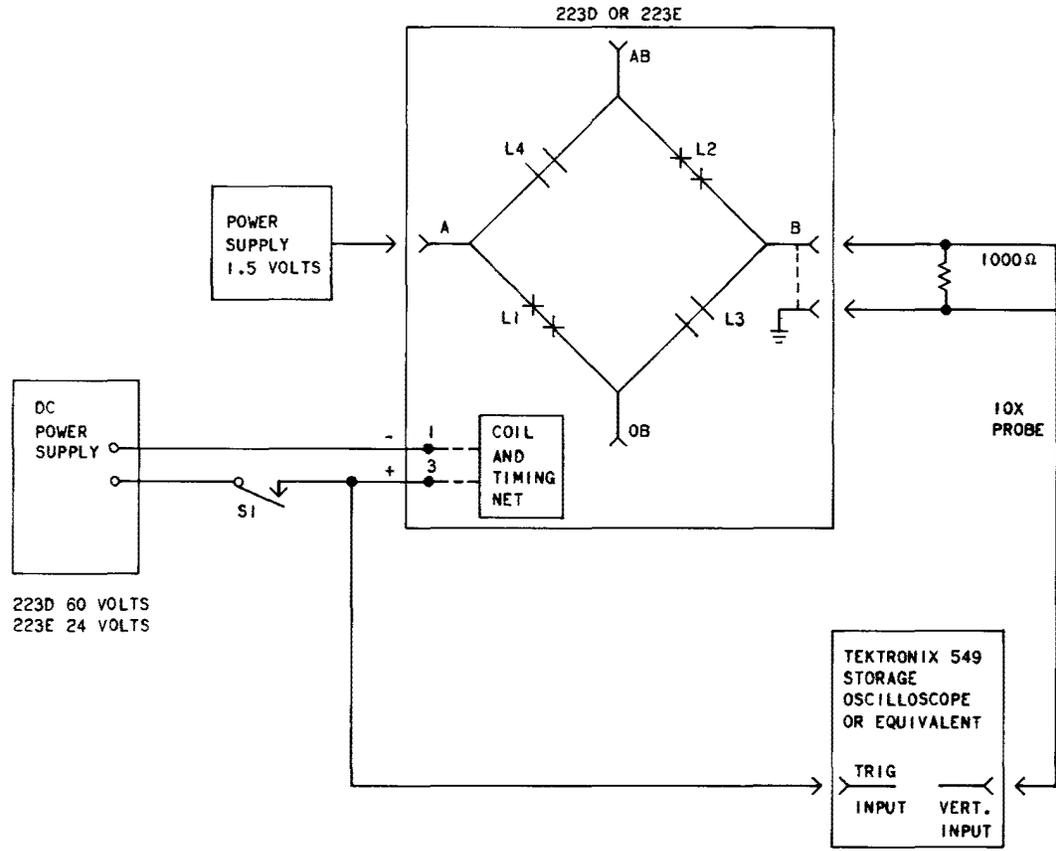

Fig. 21—Bridging Time Check Test Circuit
- (a) Establish test circuit of Fig. 21.
- (1) Screen selector—FULL
- (2) Automatic erase—OFF
- (3) Horizontal—0.5 ms/cm
- (4) Vertical input—0.05 volts/cm